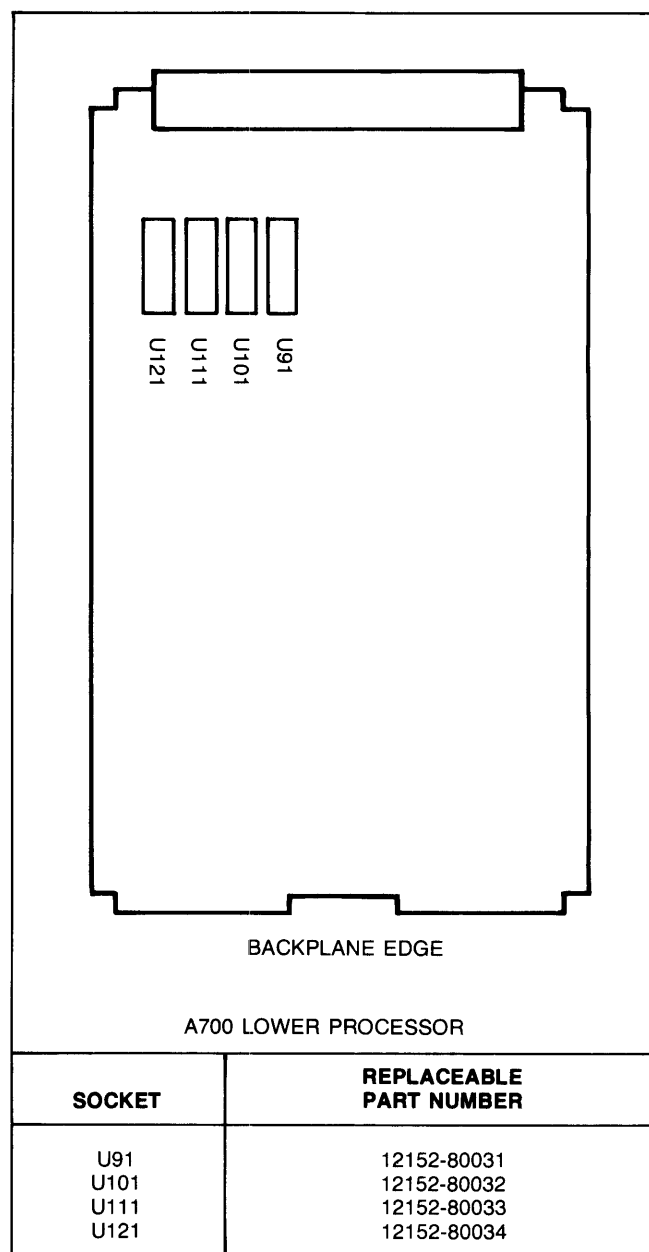

Figure 2-5. A700 Lower Processor PROM Location Diagram
- a. Refer to Figure 2-5 or Figure 2-6.